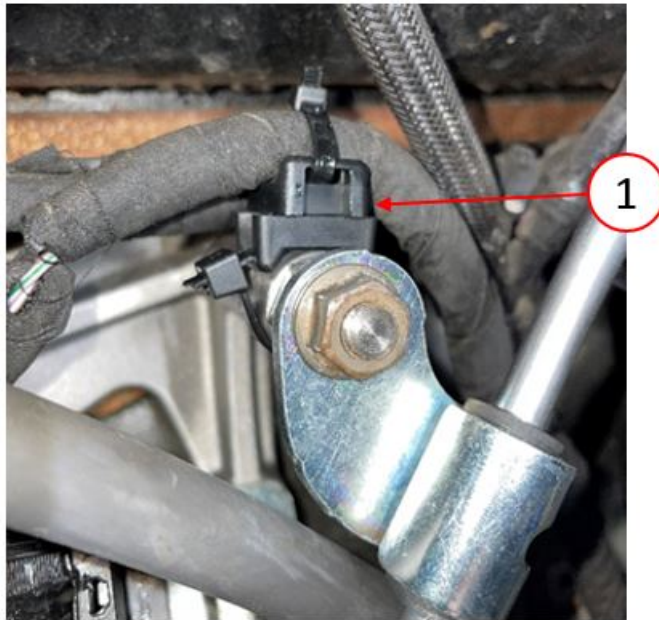

Fig. 17
51. Tie down the jumper using the provided zip-tie ******(Mopar PN 68038172AA / Supplier PN 3062329)****** (1) as shown in the picture below.
52. Using the provided zip-ties ******(Mopar PN 68038172AA / Supplier PN 3062329)****** attach the swivel bracket to the fuel line standoff and secure the wire harness pig tail to the swivel bracket (Fig. 17) .